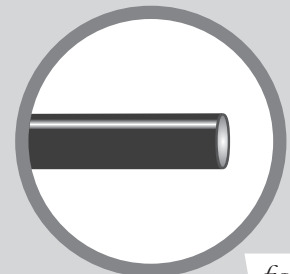

fig. 17
When cutting air lines, use a sharp knife or a hose cutter and make clean, square cuts (Fig. 17). Do not use scissors or wire cutters because these tools may deform the air line, causing it to leak around fittings. Do not cut the lines at an angle.
- a. Check the air line connection by deflating the spring and removing the line by pulling the collar against the fitting and pulling firmly on the air line. Trim 1" (25mm) off the end of the air line. Be sure the cut is clean and square (see Fig. 17). Reinsert the air line into the push-to-connect fitting.